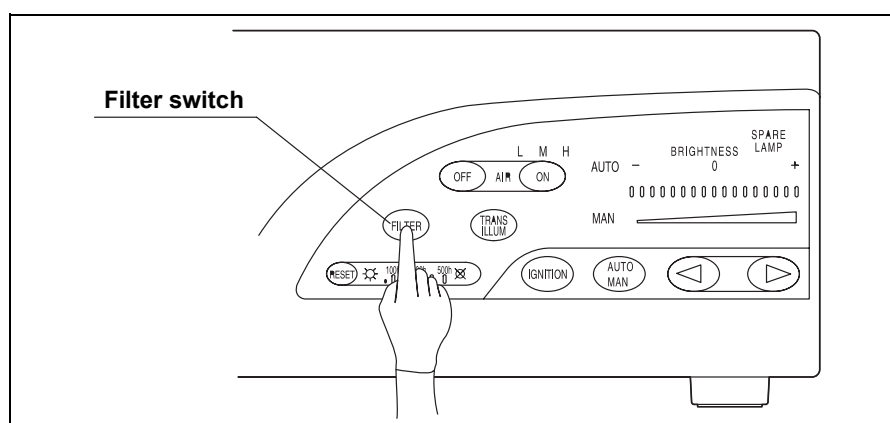

Figure 4.6
5. Press the filter switch (see Figure 4.6) to activate the filter mode. A beep is heard and the filter switch lights.